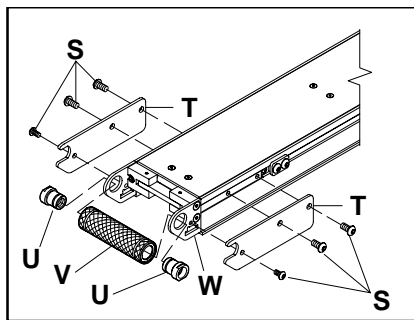
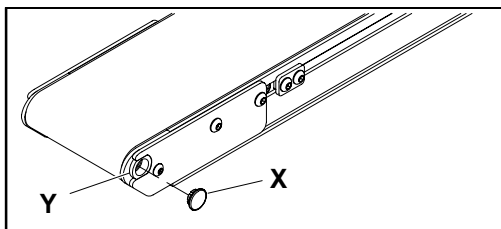
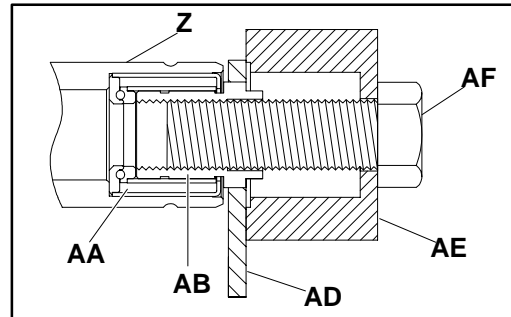

Figure 26
Figure 27
Figure 28
2. Remove the tail cover plate screws (S of Figure 26) and tail cover plates (T) on both sides of the conveyor.
3. Remove the retaining sleeves (U) and pulley (V). If retaining sleeves are frozen, continue with the next step.
4. All non-driven positions have a plastic plug (X of Figure 27) installed into the ends of the pulley retaining sleeves (Y). Use a small flat screwdriver to remove this plug.
5. Position the bearing anvil/sleeve removal tool (AE of Figure 28), part number ☆25-09, over the retaining sleeve (U of Figure 26 or AB of Figure 28).
6. Insert the special threaded bolt (AF of Figure 28), part number ☆906-278, through the bearing anvil/sleeve removal tool (AE) and into the retaining sleeve (AB).
7. Tighten the bolt (AF) until the retaining sleeve (AB) is free of the tail pulley plate (AD).
8. Remove the retaining sleeve (AB) from the bolt (AF) and repeat for the other side.
9. Take pulley (Z) out of the conveyor frame.
Refer to Figure 26 on page 14 to install pulleys as described below:
1. Insert pulley (V of Figure 26) between the tail pulley plates (W).
2. Slide the retaining sleeves (U) through openings in the tail pulley plates (W) and into the pulley (V) on each side.
3. Install the plastic plug (X of Figure 27) into the ends of the pulley retaining sleeves (Y).
4. Secure the tail cover plates (T of Figure 26) to the conveyor with tail cover plate screws (S).